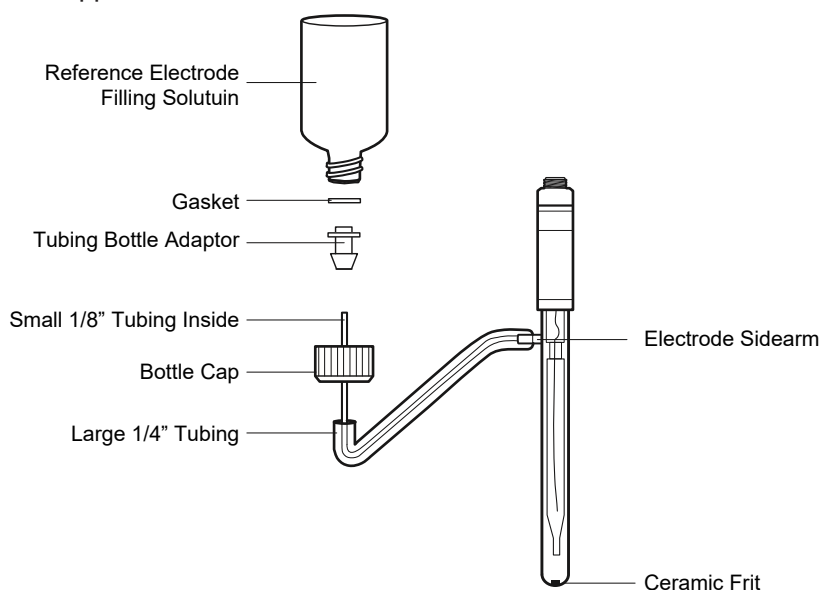

Figure 2.13 Reference Electrode with Filling Solution
4. While passing the 1/8 inch tubing into electrode sidearm, slide the 1/4 inch tubing over the sidearm. The outside tubing should extend 3/8 to 1/2 inches over sidearm. Refer to Figure 2.13.